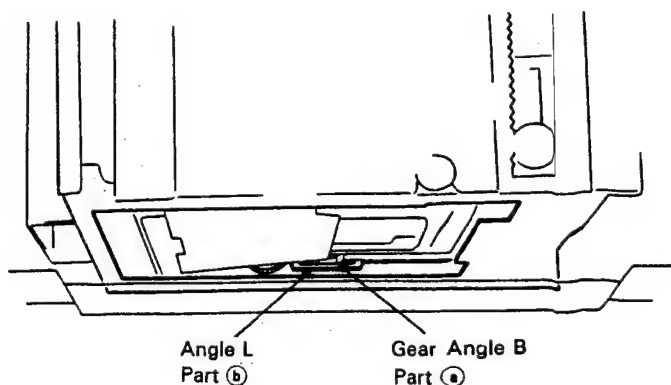

Fig. 4-3
Looking from the top, conform that part ① of the gear angle B and part ② of the angle L are parallel. (Refer to Fig. 4-3.)